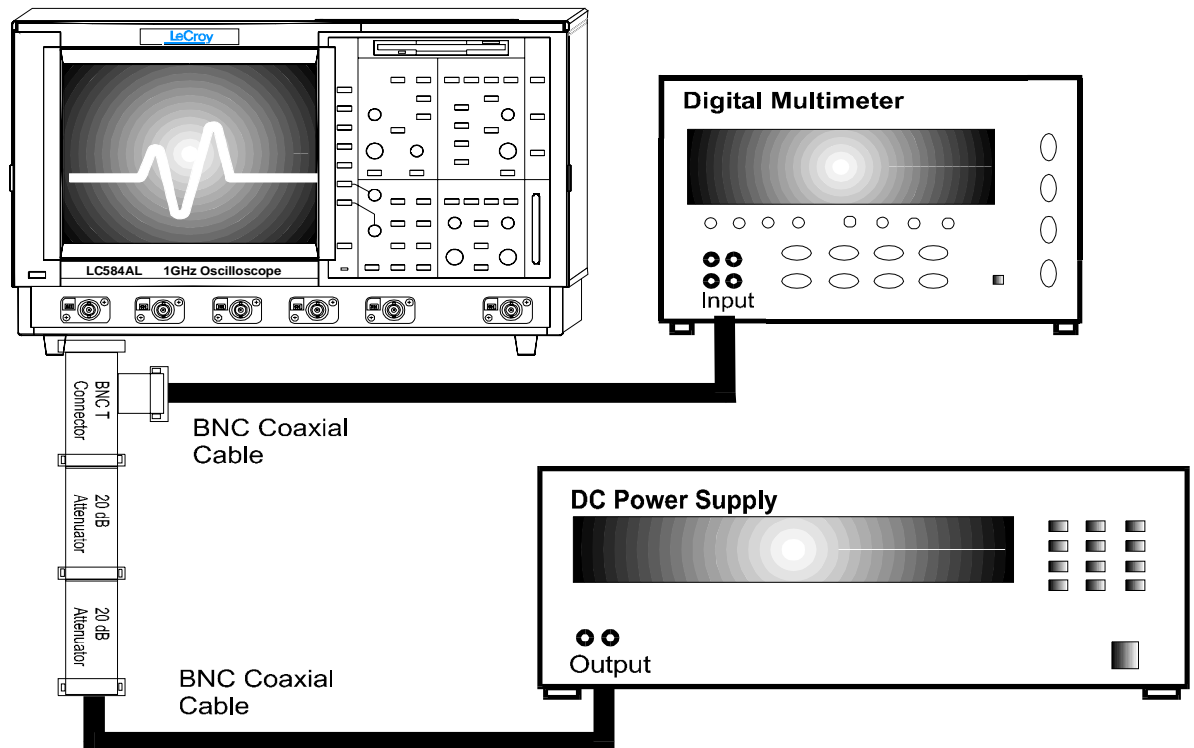

Figure 5-1 : DC 50 Ω Accuracy Equipment Setup for 2, 5, 10 and 20 mV/div
- For the low sensitivities: **2 mV, 5 mV, 10 mV and 20 mV/div.**, connect the test equipment as shown in Figure 5-1.
- Connect the test equipment as shown in either Figure 5-1 or 5-2 or 5-3.